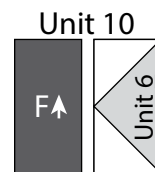

Fig. 14
8. Sew (1) $3\frac{1}{2}$ " x $6\frac{1}{2}$ " Fabric F strip to the left side of the Unit 6 strip lengthwise to make (1) $6\frac{1}{2}$ " Unit 10 square (Fig. 14).